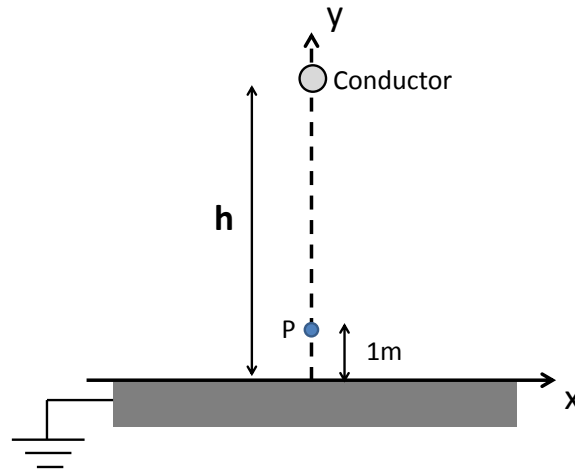

Figure 2
2. a. Figure 2 shows a simplified cross-section through a single isolated transmission line located a distance h above the ground. The ground can reasonably be regarded as a zero voltage equipotential. The radius of the transmission line is R_c and its length is L_c . The charge density of the transmission line is q .
- ii) The magnitude of the electric field strength at the point **P** in Figure 2 which is directly below the transmission line and 1m above the ground.